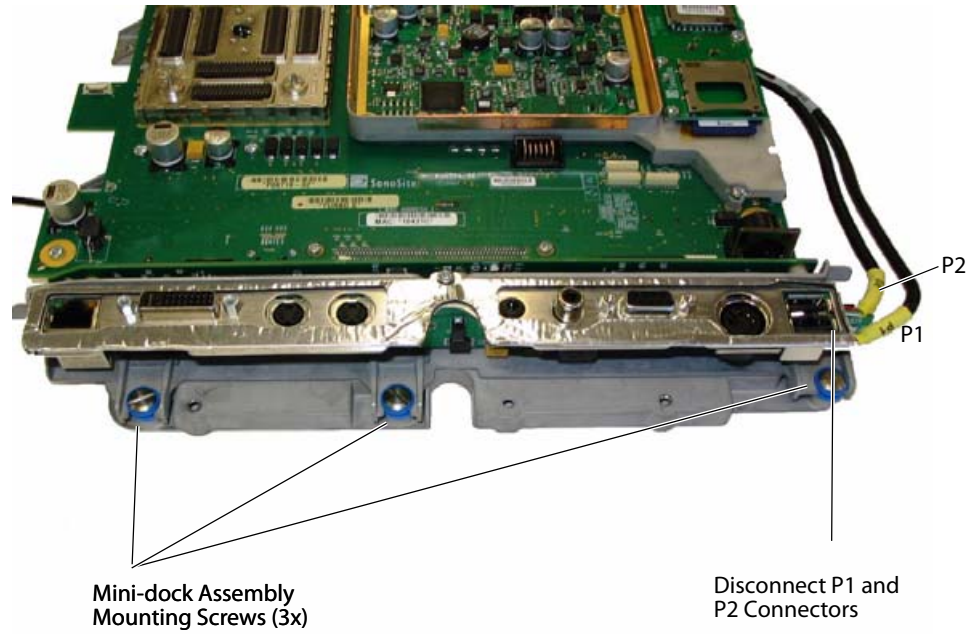

Figure 4.9 Mini-dock Assembly Mounting Screws
- 4 Remove the three Mini-dock Assembly mounting screws as shown in Figure 4.9.
- 5 Disconnect the P1 and P2 cable connectors from the Mini-dock Assembly as shown in Figure 4.9.
- 2 Reinstall the three Mini-dock Assembly mounting screws as shown in Figure 4.9 on page 21. Tighten the screws to 8.0 inch/pounds (.904 Newton-meters).
- 3 Reconnect the P1 and P2 cable connector as shown in Figure 4.9 on page 21.